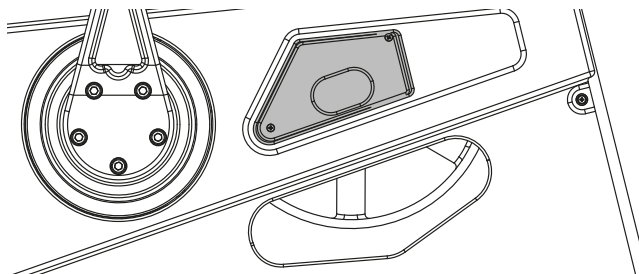

Figure 17
In order to remove the service hatch, use a PZ2 drill bit and a drill. Remove the 2 screws and then the hatch. See figure 17.
- 1) Remove the service hatch on both sides of the cycle with a screwdriver, see figure 17.